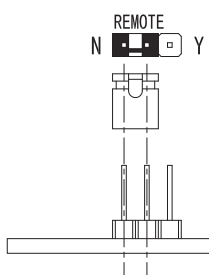

Figure 1
- When customer doesn't need remote lamp, please insert terminal to N. (See Figure 1 below)